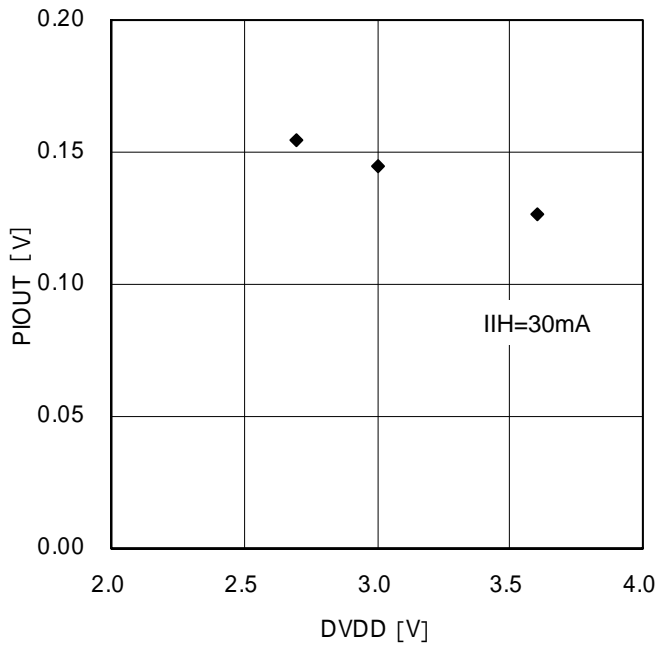

Figure 13. Output Voltage DVDD Dependency (PI driving circuit)
P.12 Graph Scale is changed. Figure.13